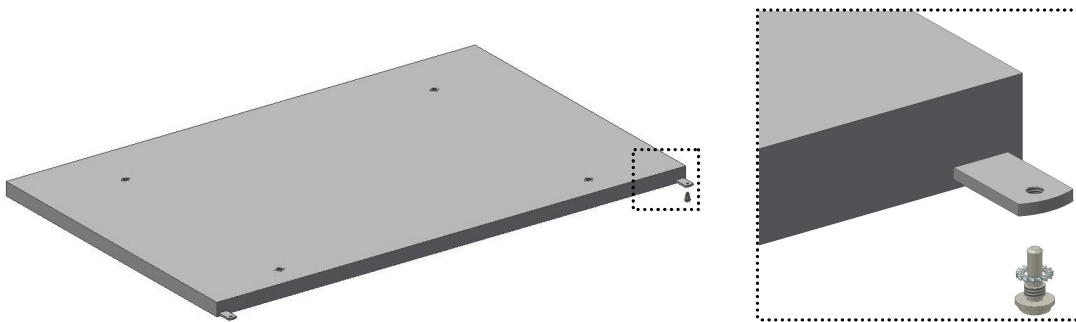

Fig. 1
- Insert the two inferior stud-pins with serrated lock washers in the fixing supports of the doors (Fig. 1);